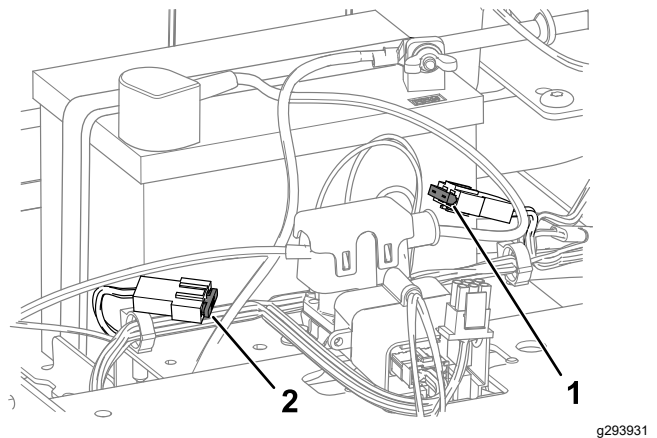

Figure 44
4. To replace a fuse, pull out the fuse to remove it (Figure 44).